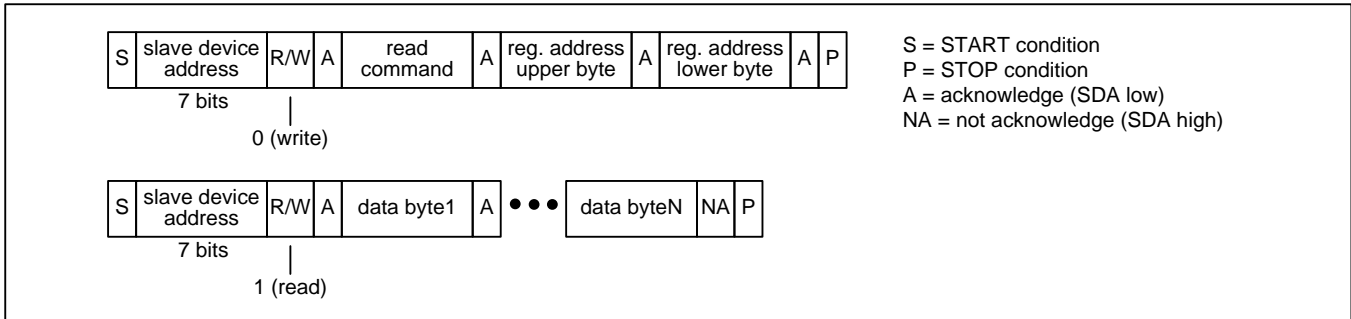
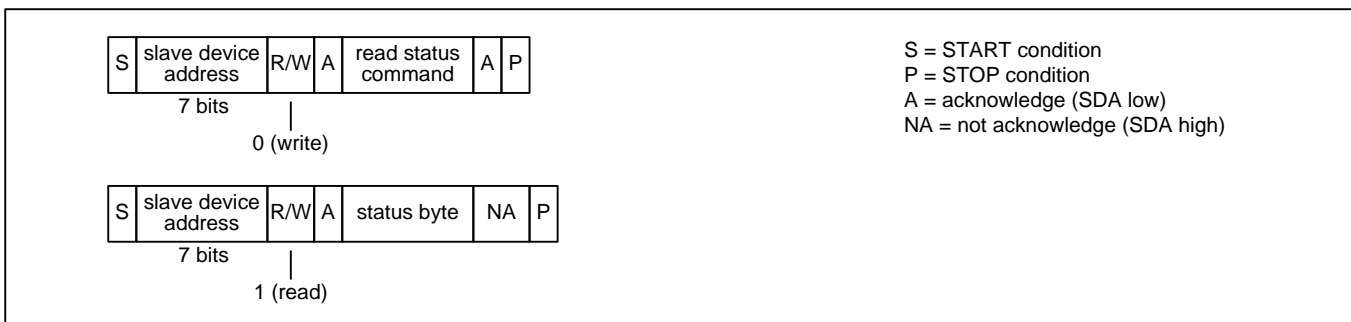

Figure 9 - I²C Read Transaction Functional Timing
Figure 12 - I²C EEPROM Read Status Transaction Functional Timing (ZL30265 and ZL30267 Only)
Read Transactions. The device registers are accessible when the **EESEL** bit is 0. On ZL30265 and ZL30267 the internal EEPROM memory is accessible when the **EESEL** bit is 1. On ZL30264 and ZL30266 the **EESEL** bit must be set to 0. The bus master first does an I²C write to the device. In this transaction three bytes are written: the SPI Read command (see Table 3), the upper byte of the register address, and the lower byte of the register address. The bus master then does an I²C read. During each acknowledge (A) bit the device fetches data from the read address and then increments the read address. The device then transmits the data to the bus master during the next 8 SCL cycles. The bus master terminates the read with a not-acknowledge (NA) followed by a STOP condition (P). See Figure 9. After the I²C write there can be unlimited idle time on the bus before the I²C read, but the device cannot tolerate other I²C bus traffic between the I²C write and the I²C read. Care must be taken to ensure that the I²C read is the first command on the bus after the I²C write to ensure the two-part read transaction happens correctly.
EEPROM Read Status (ZL30265 and ZL3026 Only). The bus master first does an I²C write to transmit the SPI Read Status command (see Table 3) to the device. The bus master then does an I²C read to get the status byte. In this byte, the least significant bit is set to 1 if the transfer is still in progress and 0 if the transfer has completed. See Figure 12. Similar to read transactions described above, the I²C write and the I²C read cannot be separated by other I²C bus traffic.
Note: In Figure 9 through Figure 12, a STOP condition (P) immediately followed by a START condition (S) can be replaced by a repeated START condition (Sr) as described in the I²C specification.